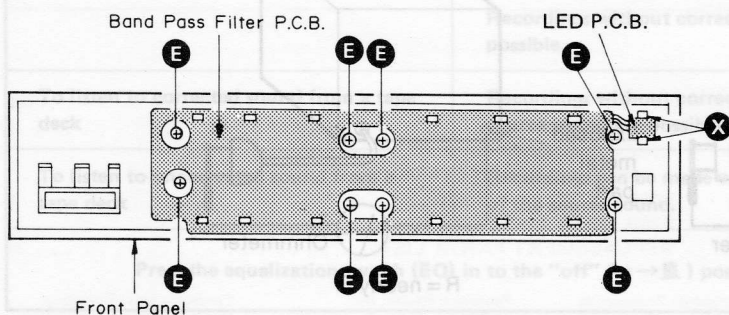

Fig. 3
2. Release the claw at part **X** and remove the LED circuit board from the front panel. [Fig. 3]
3. Remove the 8 screws [Fig. 3: **E**] and remove the P.C.B. holder from the front panel.